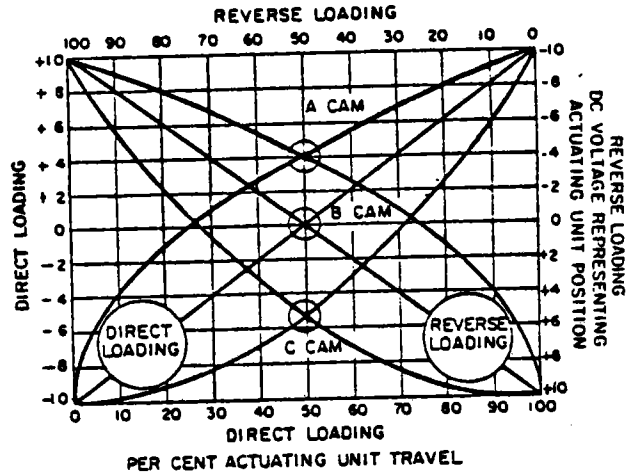

FIGURE 5 - Cam Characteristic Curves
Positioning cams A, B, and C are furnished with each Position Transmitter. The Position Transmitter is shipped from the factory with the B positioning cam in place. The A and C cams are attached inside of the Position Transmitter case. The characteristics for which the positioning cams are shaped are listed in Table A. Figure 5 shows a family of curves for each cam.
4. Compare curve made in step 3 with curves shown in Figure 5. Select positioning cam whose characteristic curve most closely matches drive lever travel vs. DC output signal voltage characteristic determined in step 3.